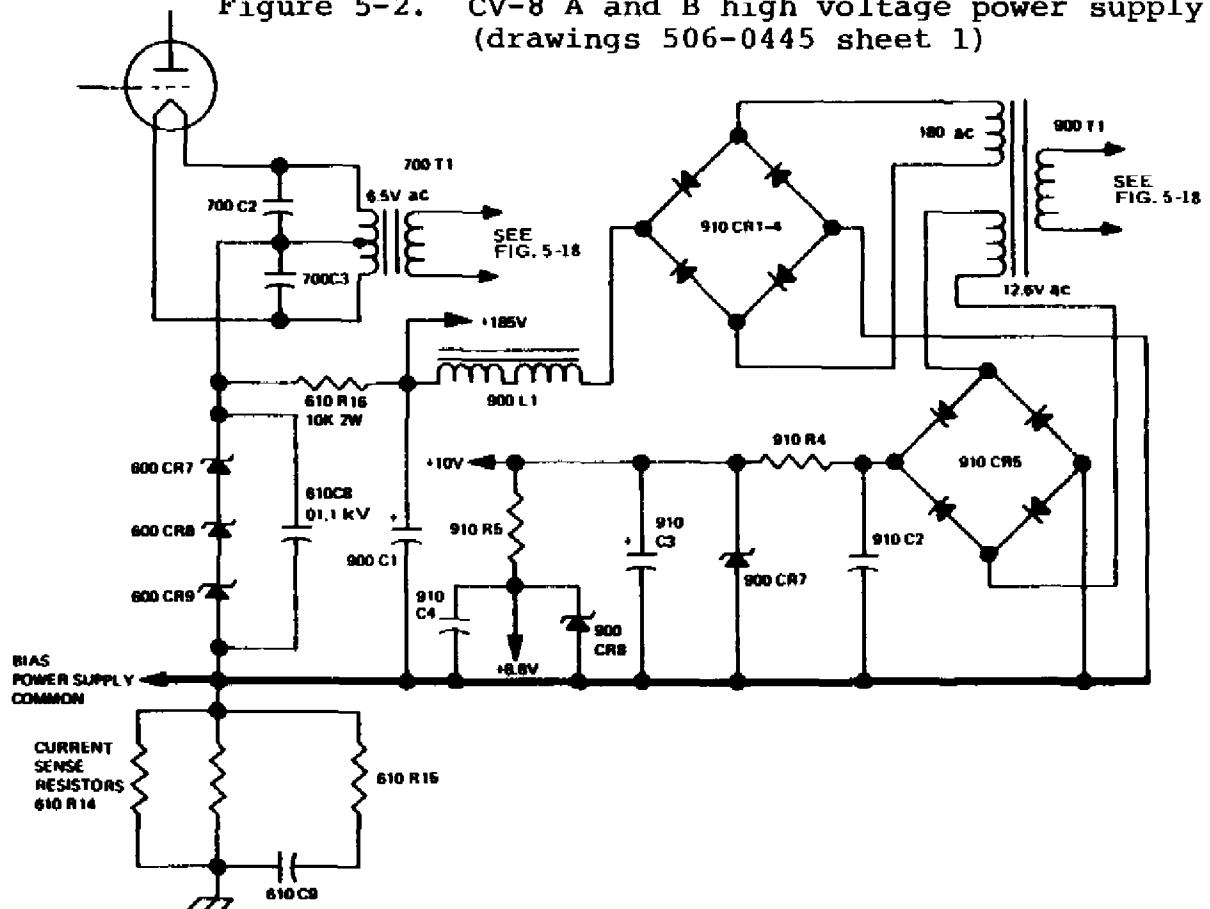

Figure 5-3. CV-8 A and B triode cathode network and bias (high voltage regulator) power supply (drawing 506-0445 sheet 1)
5.2.2 Triode Cathode Bias Network and (High Voltage Regulator) Power Supplies (Figure 5-3)